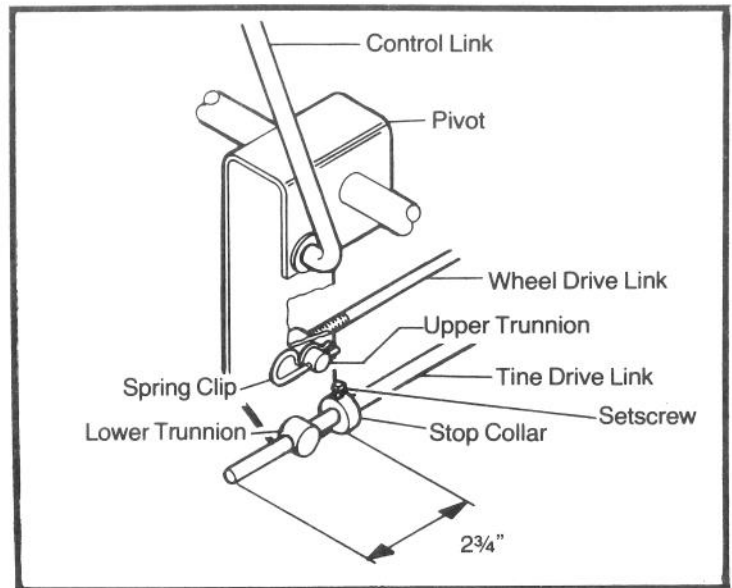
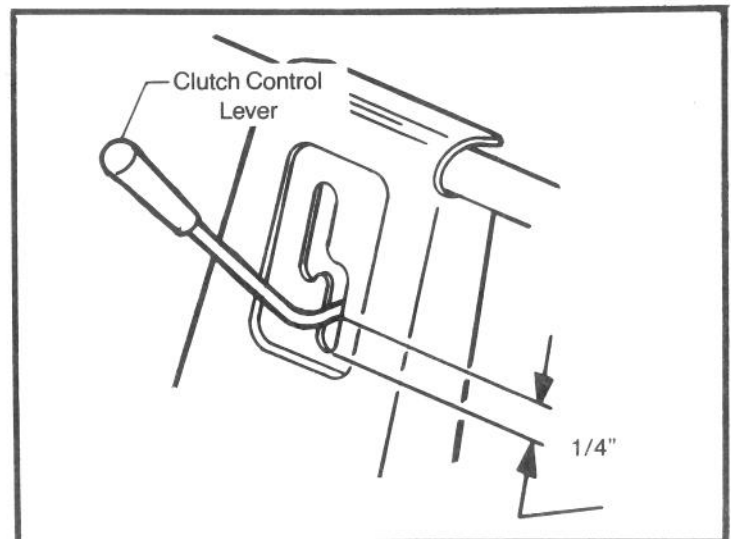

FIGURE 11
FIGURE 12
- A. The stop collar should be tight and approximately $2\frac{3}{4}$ " from the end of the tine drive link, Fig. 11. If collar has loosened or is not set correctly, readjust to the $2\frac{3}{4}$ " dimension and retighten setscrew.
- B. Move clutch control lever into "FORWARD" position. **Lightly pull back on the lever to remove play in linkage.** Lever should now be $\frac{1}{4}$ " from bottom of slot, Fig. 12. If lever position is not correct remove spring clip from upper trunnion, Fig. 11, and pull trunnion out of pivot.
Reinsert trunnion into pivot and secure with spring clip. Recheck $\frac{1}{4}$ " dimension as shown in Fig. 12.